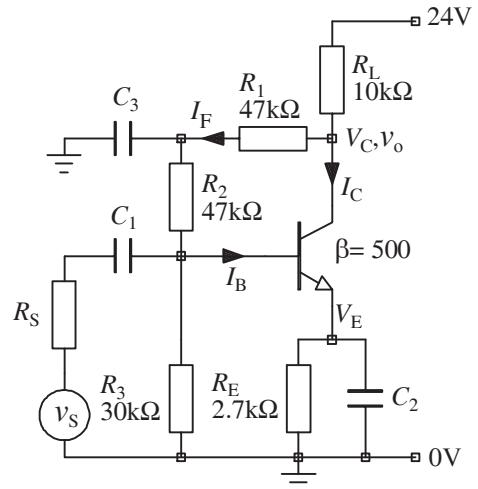

Figure 7
For the circuit of figure 7,
- (iii) Draw the small signal equivalent circuit of figure 7 assuming that all capacitors are small signal short circuits.